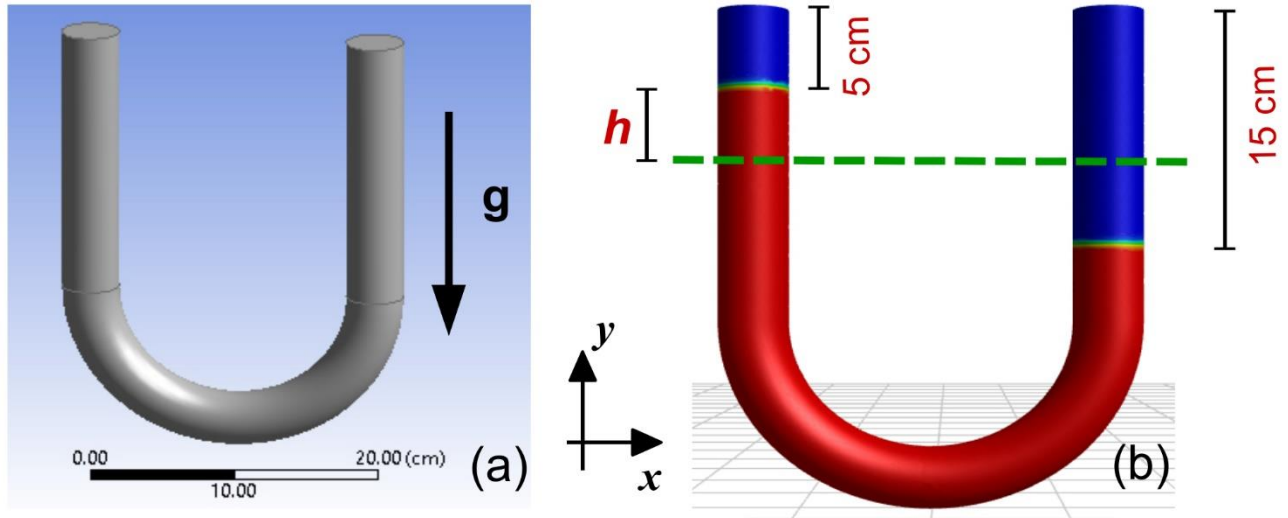

Fig. 5 (a) The geometry of the U-pipe. (b) The initial state for the simulation. Blue and red are air and water, respectively.
- (iii) Let t_1 be the time when the water levels of the left and right pipes first become equal, and t_2 the second time the two levels become equal (t_1 and t_2 are approximately the times at $1/4$ and $3/4$ period of the oscillation). Make contour plots of the x -velocity on the plane of symmetry at $t = t_1$ and $t = t_2$. The x -direction is as indicated in Fig. 5, i.e., x increases from left pipe to right pipe. Please be careful about this specification. We are particularly interested in the structure of the velocity over the curved section (particularly at the bottom) of the U-pipe. Please adjust the contour interval to highlight the pattern of velocity over that section. At the bottom of the pipe, does the maximum velocity occur near the inner edge or outer edge?